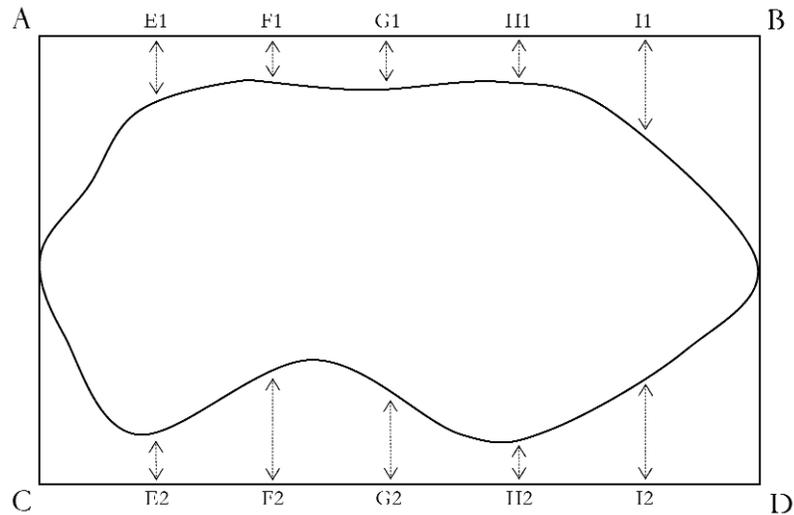

Figure 2.7 Sample diagram of a pond outline with paired offset lines drawn.
Step 2. Mark pairs (E1 + E2, F1 + F2, etc.) of offset lines (10 feet apart) along each length line to the nearest perimeter of the object (Fig 2.7).